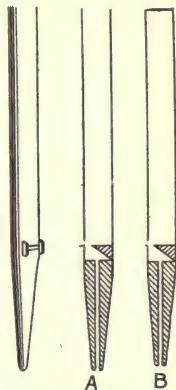

FIG. 373. — Organ pipes: (A) open, and (B) closed.
404. Wind instruments. The simplest wind instrument is the **organ pipe**. Sometimes the tube is open at the upper end and is called an *open* pipe [Fig. 373 (A)]; at other times the pipe is closed at the upper end and is called a *closed* pipe [Fig. 373 (B)].